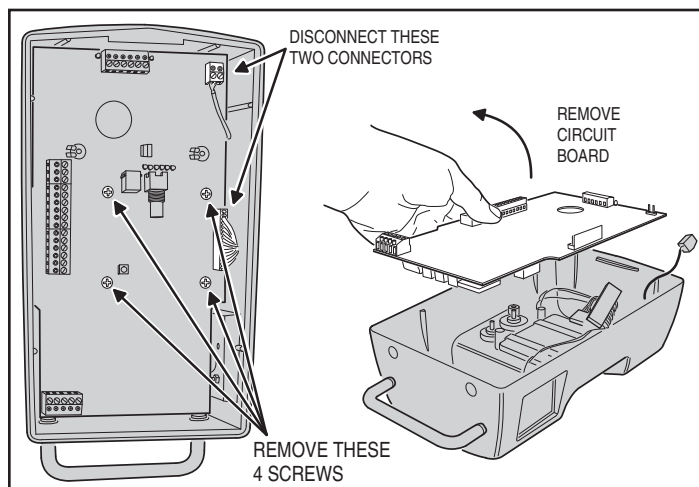

Figure 18. Removing the RE-1 Circuit Board
1. Disconnect the wiring harness connector and remove the antenna terminal block. Remove the four circuit board retaining screws and the RE-1 circuit board (see Figure 18).